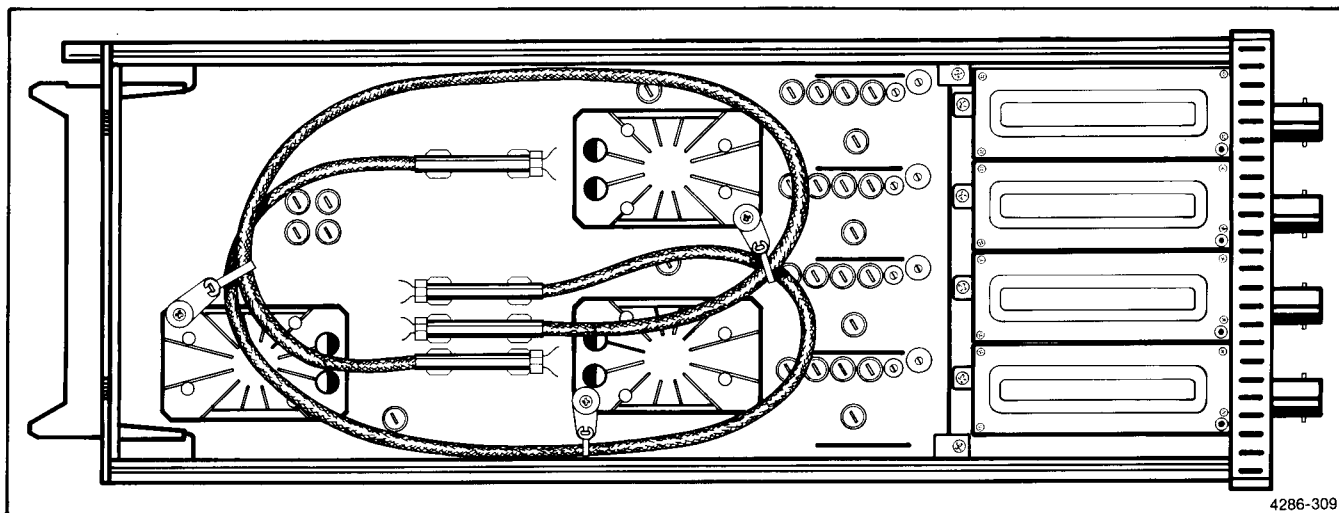

Figure 3-27. Placement of delay lines.
they should be replaced as a pair. The pair of delay lines should be routed and clamped as shown in Figure 3-27.
8. Install the spacer posts and cable clamps as shown in Figure 3-27.